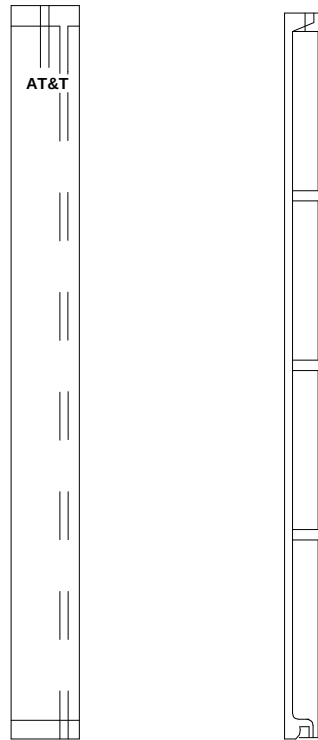

Figure 12-44. Blank Circuit-Pack Faceplate
4. Lift locking lever upward until latch pin engages (see Figure 12-44).